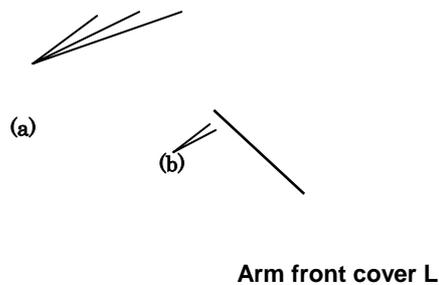

FIG.1
- (2) Remove three set screws (a), two set screws (b) and remove the arm front cover L (Fig.1).
- (2) After adjusting, locate the jump motor at its highest position and tighten two set screws.
- (3) Install the arm front cover L with five set screws (Fig.1).